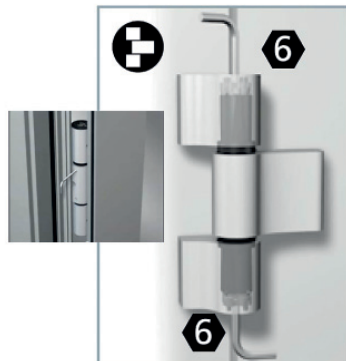

Figure 10.4. Vertical adjustment:
- Adjust the adjuster screw using a box spanner (figure 10.4)